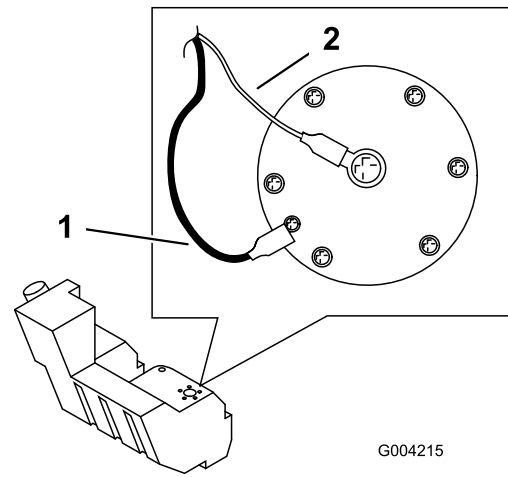

Figure 58
12. Disconnect the two wires leading to the right side of the tank (Figure 58).
19. On the right side of the tank, connect the orange wire to the center post and the black wire to the outside post (Figure 58).